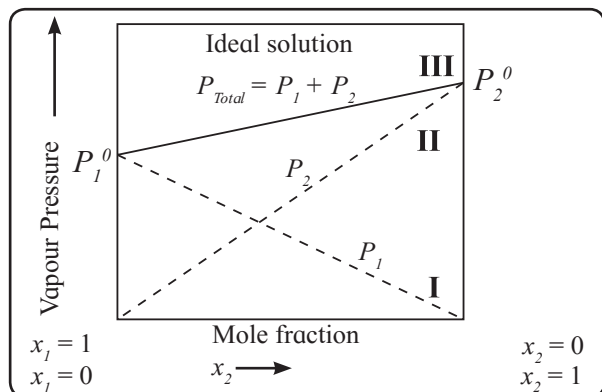

Fig. 2.2 : Variation of vapour pressure with mole fraction of solute
Because P₁⁰ and P₂⁰ are constants, a plot of P versus x₂ is a straight line as shown in the Fig 2.2. The figure also shows the plots of P₁ versus x₁ and P₂ versus x₂ according to the equations 2.2. These are straight lines passing through origin.
- v. The vapour pressure of ideal solution always lies between vapour pressures of pure components, as shown in Fig. 2.2.